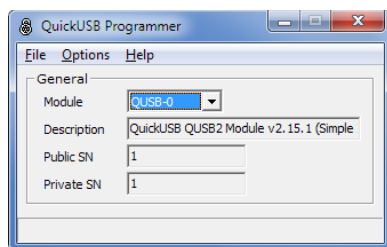

Figure 3 – QuickUSB Programmer
3. The programming process should take only a few seconds and its progress is indicated with a progress bar near the status bar. After the firmware has been updated, you will be prompted to disconnect and reconnect the QuickUSB Module from the USB cable to load the firmware. If you have external power connected to the QuickUSB Evaluation Board, please remove it as well (See Figure 3).